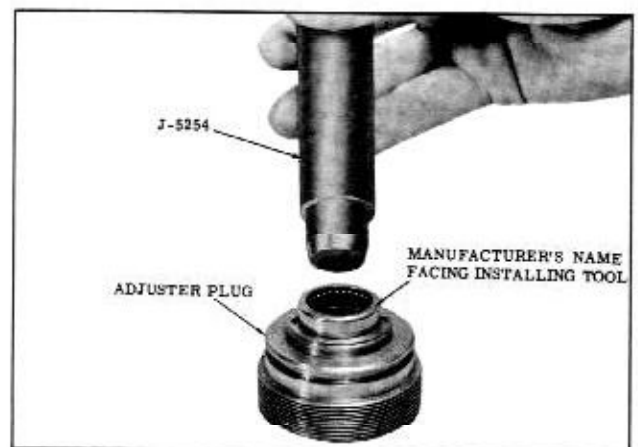

Fig. 4-48 Installing Bearing
1. If the needle bearing was removed, place new needle bearing over Tool J-5254 with the manufacturer's identification against the tool and drive or press bearing until it is flush with the surface of the seal bore. (Fig. 4-48)